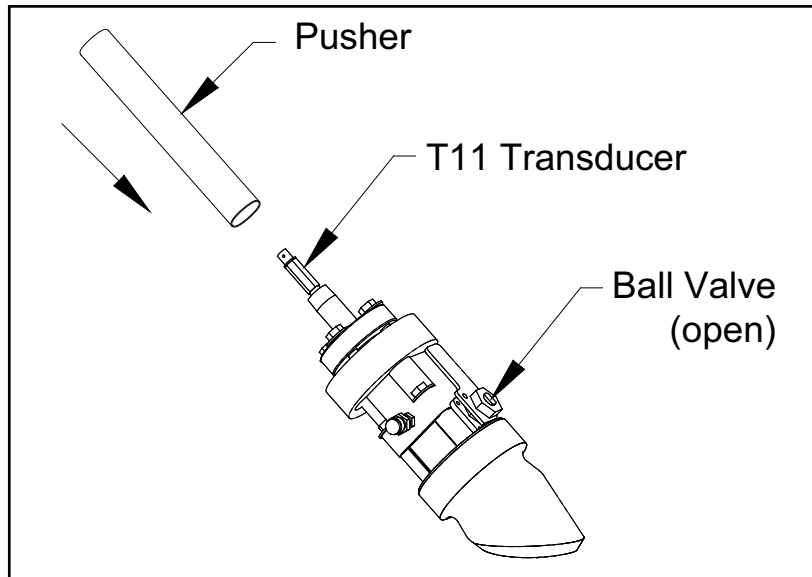

Figure 77: Transducer Pusher Installation
2. Apply anti-seize lubricant to the transducer thread and hand-tighten the transducer pusher onto the transducer until it is firmly in place (see *Figure 77* below).